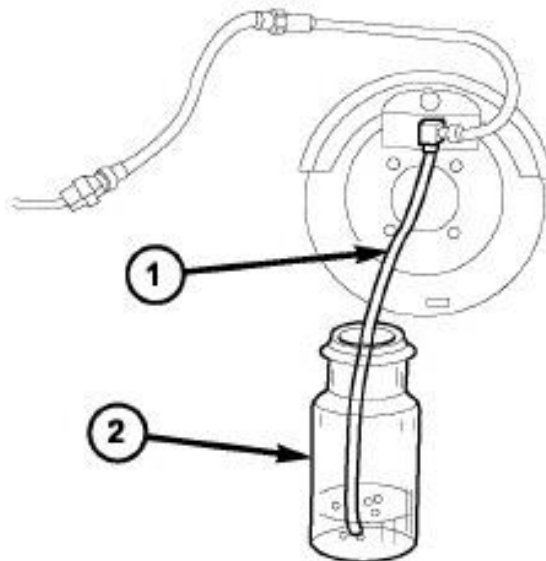

Figure 6 – Bleed Hose Immersed in Container of Brake Fluid
11. Attach one end of the bleed hose (1) to the bleed screw and insert the opposite end into a glass container (2) partially filled with brake fluid. Be sure the end of the bleed hose is immersed in fluid (Figure 6).